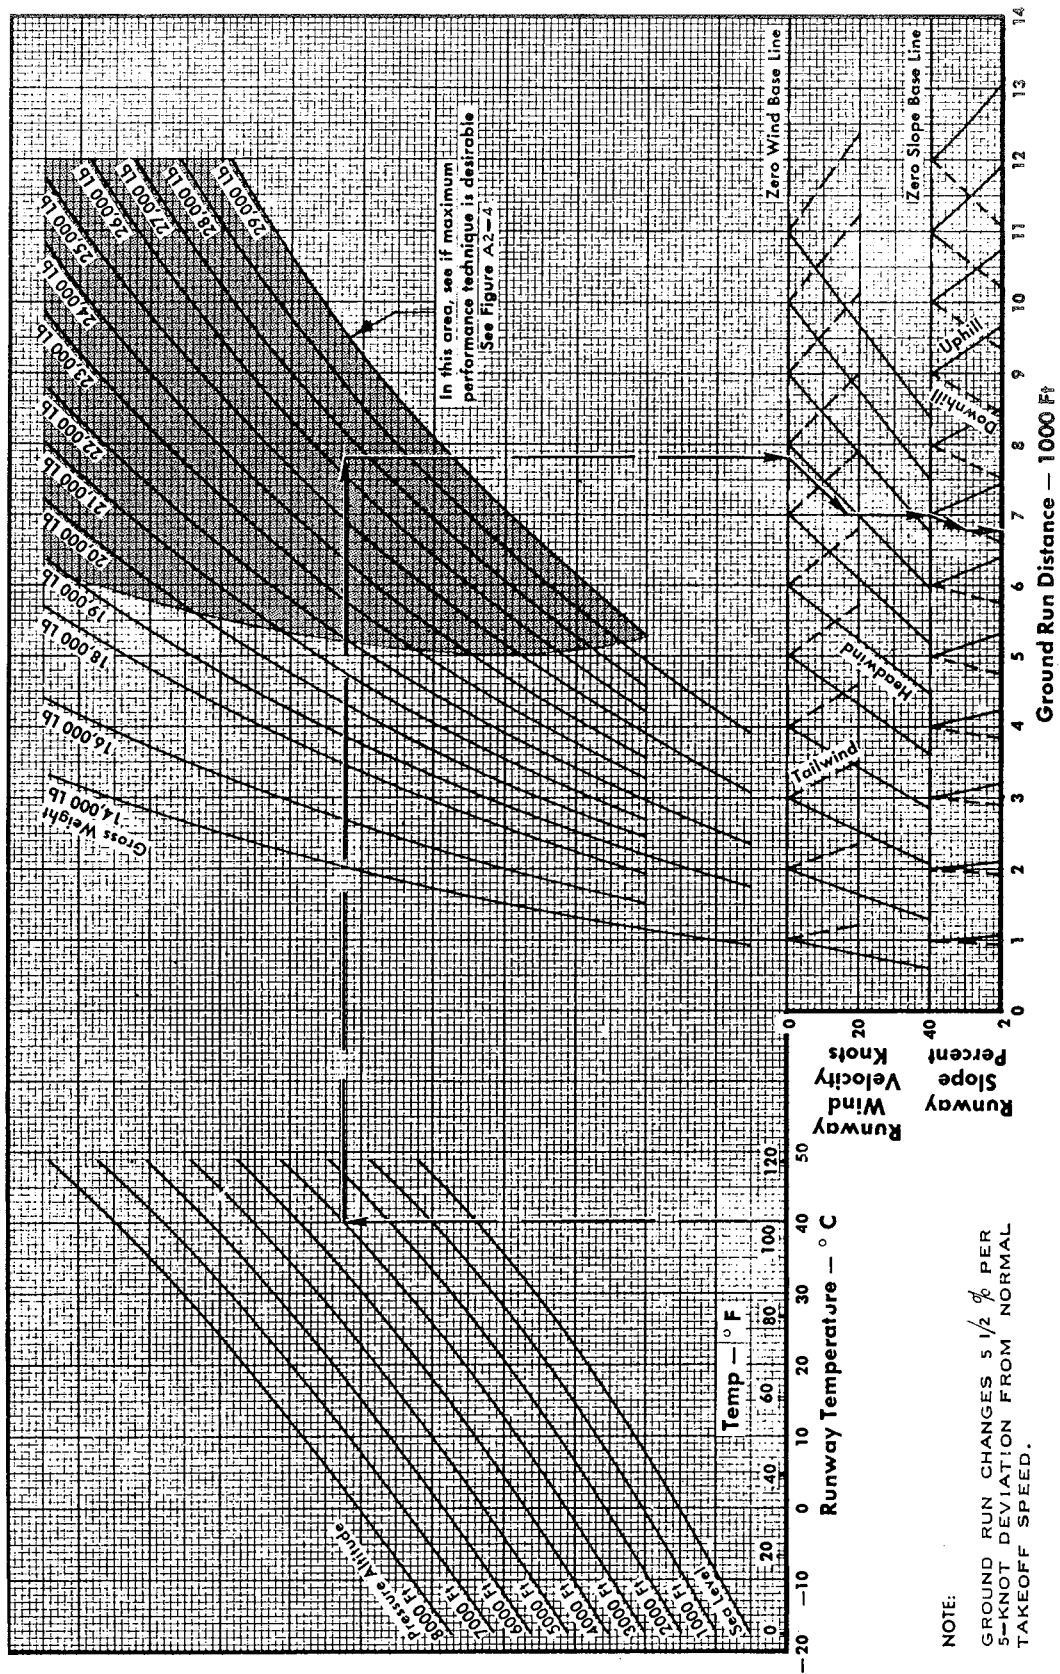

Figure A2-5
- b. From Figure A2-5 the zero wind, zero slope ground run distance is 4800 ft. Predicted distance with wind and slope is 4100 ft.
- b. From Figure A2-5 the zero wind, zero slope ground run distance, for use in determining the go, no-go requirements, is 7300 ft. Predicted distance with wind and slope is 6300 ft.